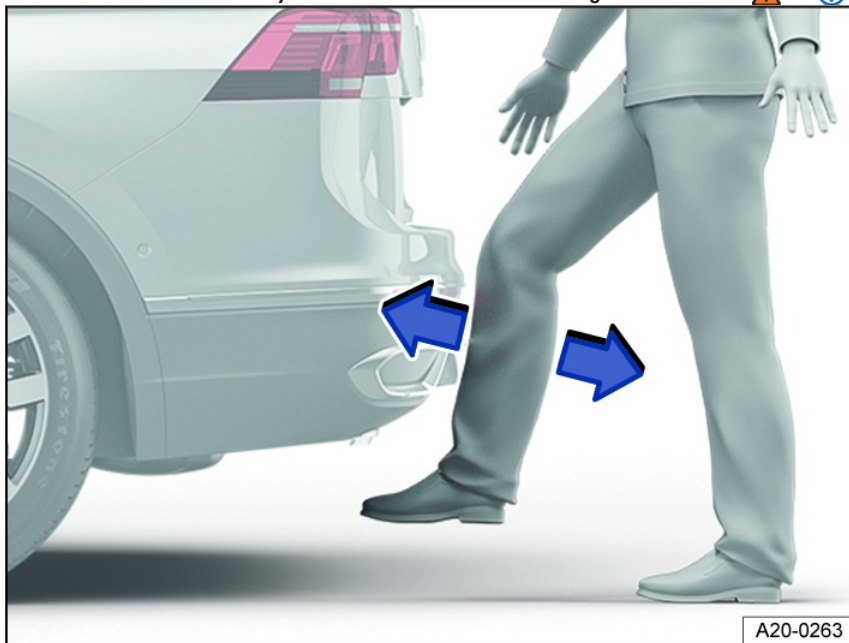

Fig. 69 General example of the trunk lid with sensor-controlled closing (Easy Close).
2. Quickly swing the lower part of your leg close to the bumper fig. 69.